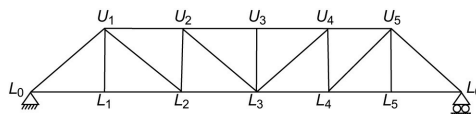

Fig. Q. 80
80. Figure Q. 80 shows a typical truss List I shows its member and List II shapes of influence line diagrams for the forces in the member. Match List I with List II by selecting answer code given.